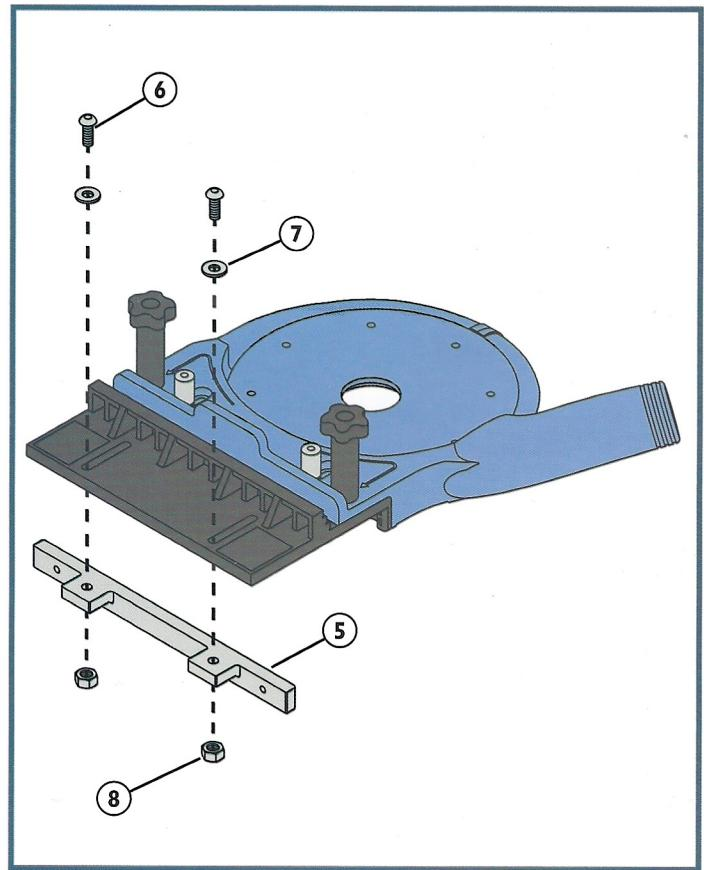

Fig. 3
6. Align the holes in the mounting tabs of the Tension Fence (5) with the slots marked "Fence Adjustment" in the Perfect Fit Fence (4) and attach the two with the 1/4"-20 x 3/4" Socket Cap Screws (6), 1/4" Flat Washers (7) and 1/4" Hex Nuts (8), which fit into the sockets in the bottom of the Tension Fence mounting tabs. **Fig. 3.**
7. Reinstall the Router Plate (1) on the Jig Base (2) with the eight #10-24 x 7/16" Flathead Screws (3). Make sure that the router's handles won't obstruct the jig's knobs or overhang the stepped area between the Jig Base and the Perfect Fit Fence (4).